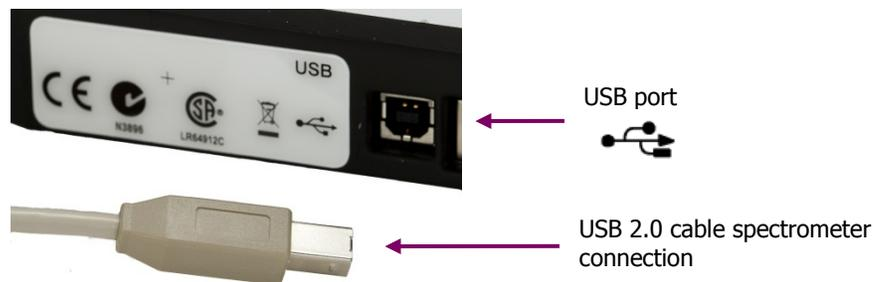

Figure 14 USB 2.0 cable connector and USB port
1. When prompted by the Spectrum software installer, plug one end of the USB 2.0 cable provided into the USB port on the rear of the instrument (Figure 14).
NOTE: For AssureID, install the USB drivers, connect your spectrometer as shown in Figure 14, start AssureID, and then run the Instrument Install Wizard (see page 44). Refer to the *AssureID Administrator's Guide* (part number L1050019) for more information.